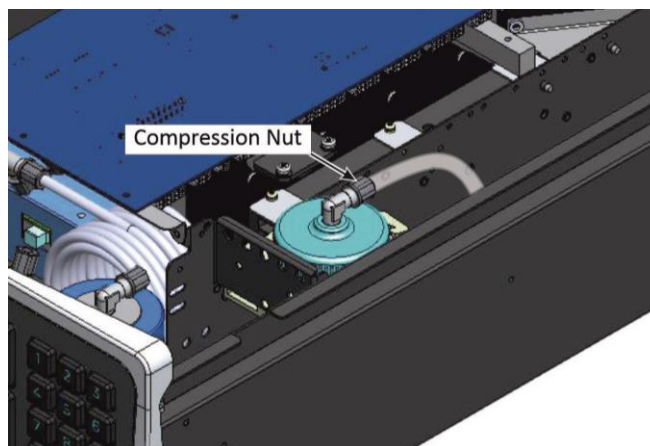

Figure 140 – Remove the Tubing
3. Refer to Figure 140. Loosen the compression nut and remove the tubing from the fitting on top of the scrubber.